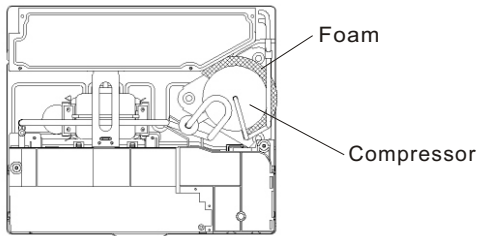

Fig. 13
- If not, it would harm the operation of the compressor. (See Fig. 13)